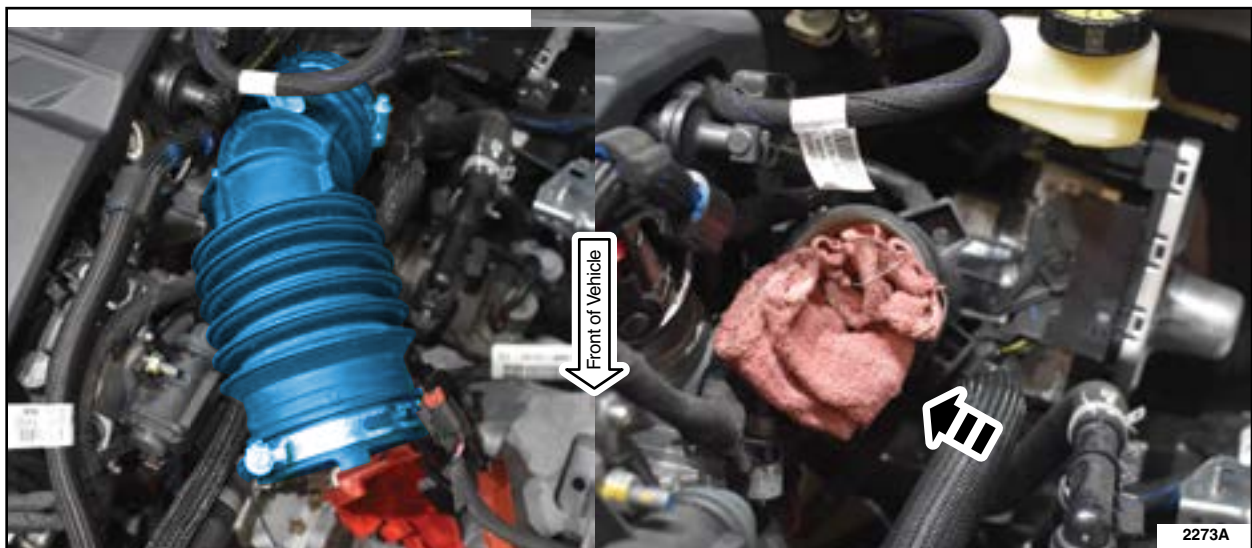

FIGURE 2
16. Remove air cleaner outlet pipe. Use a clean shop towel to cover the opening left behind. See Figure 2.